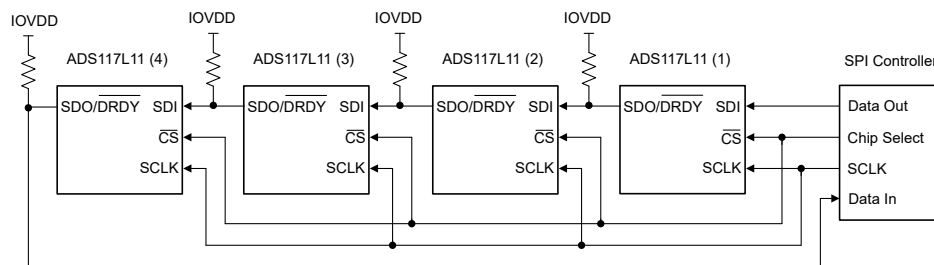

Figure 8-36. Daisy-Chain Connection
Figure 8-36 illustrates four devices connected in a daisy-chain configuration. The SDI of ADS117L11 (1) connects to the host SPI data out, and SDO/ $\overline{\text{DRDY}}$ of ADS117L11 (4) connects to the host SPI data input. The shift operation is simultaneous for all devices in the chain. After each ADC shifts out the conversion data, the data of SDI appears on SDO/ $\overline{\text{DRDY}}$ to drive the SDI of the next device in the chain. The shift operation continues until the last device in the chain is reached. The SPI frame ends when $\overline{\text{CS}}$ is taken high, at which time the data shifted into each device is interpreted. The SDO/ $\overline{\text{DRDY}}$ pin must be programmed to data output-only mode.
Figure 8-38 shows the detailed input data sequence for the daisy-chain write register operation of Figure 8-36. 32-bit frames for each ADC are shown (16 bits of data, with the STATUS and CRC bytes enabled). Command operations can be different for each ADC. The read register operation requires a second frame operation to read out the register data.
Figure 8-39 illustrates the clock sequence to read conversion data from the device connection in Figure 8-36. This example illustrates a 24-bit output frame (16-bits of data, with the CRC byte enabled). The output data of ADC (4) is first in the sequence, followed by the data of ADC (3), and so on. The total number of clocks required to shift out the data is given by the number of bits per frame $\times$ the number of devices in the chain. In this example, 24-bit output frames $\times$ four devices result in 96 total clocks.